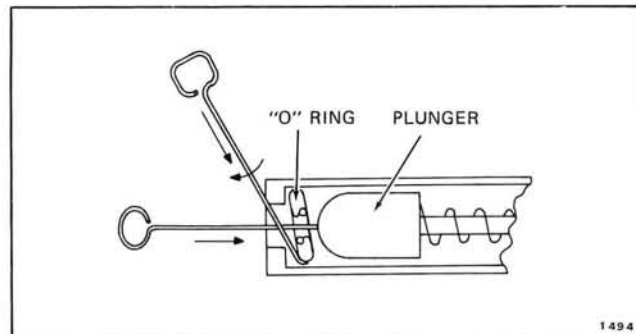

Figure 3-32. Removing "O" Rings
- Insert the hooked instrument between the "O" ring and its seat with the hook in a flat or horizontal position. See Figure 3-32.